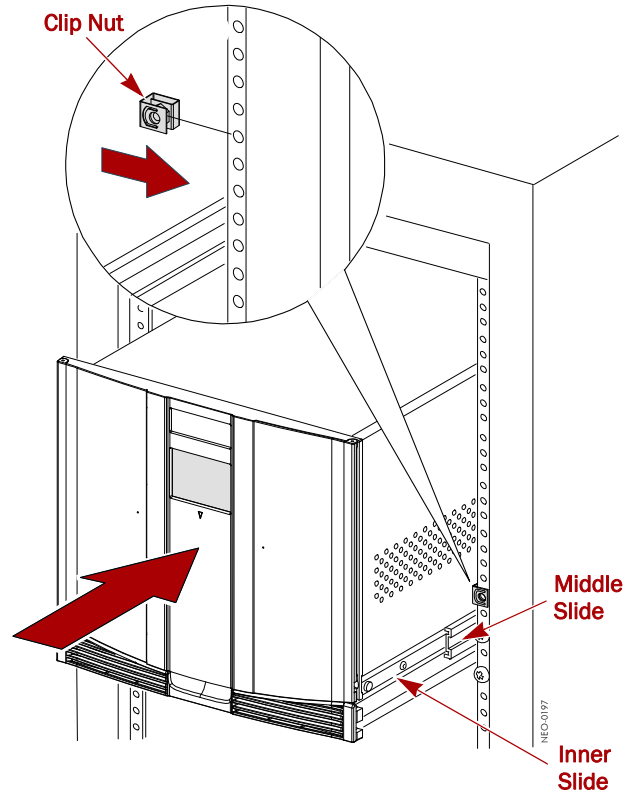

Figure 6. Installing The Library Module
- Install the two **clip nuts** on each front rail at the marked spot (see Figure 6).